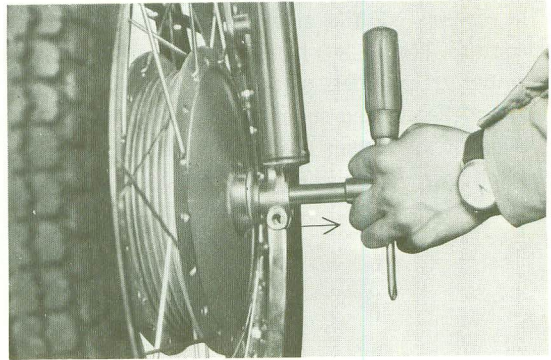

Fig. 5-1-5
- (4) Pull out the shaft. (Fig. 5-1-5)